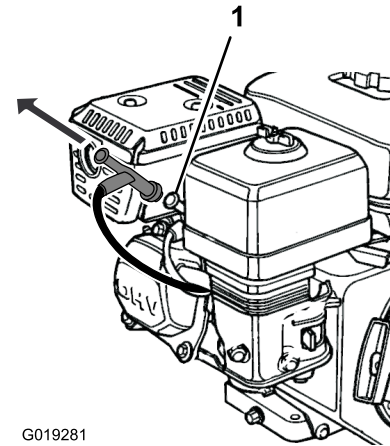

Figure 26
11. Connect the spark-plug wire (Figure 26).